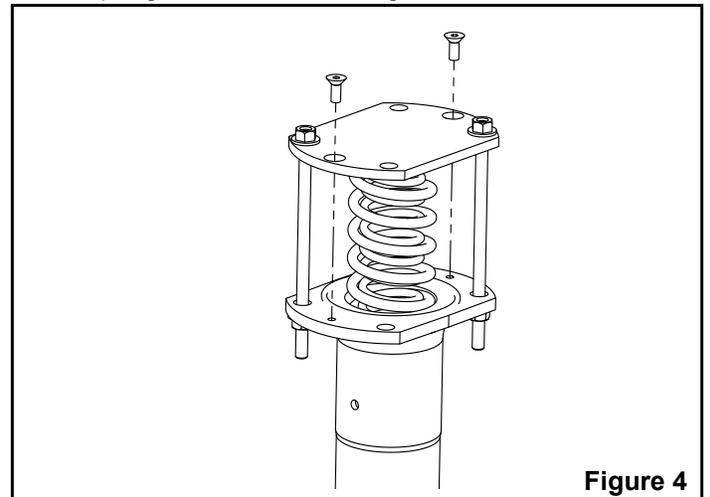

Figure 4
7. After the tension is removed from the cover, the spring box tools and the cover can be removed. See Figure 4.
10. Place a drift pin or 5/8" dia. steel rod into the connecting pin hole in the ram head (#14). Use this to hold the ram head from turning while removing the flange lock nut (#19). Remove and discard flange lock nut (19).
8. Insert the spring box tool (MBW #20260) rods into the spring box as shown in Figure 4.